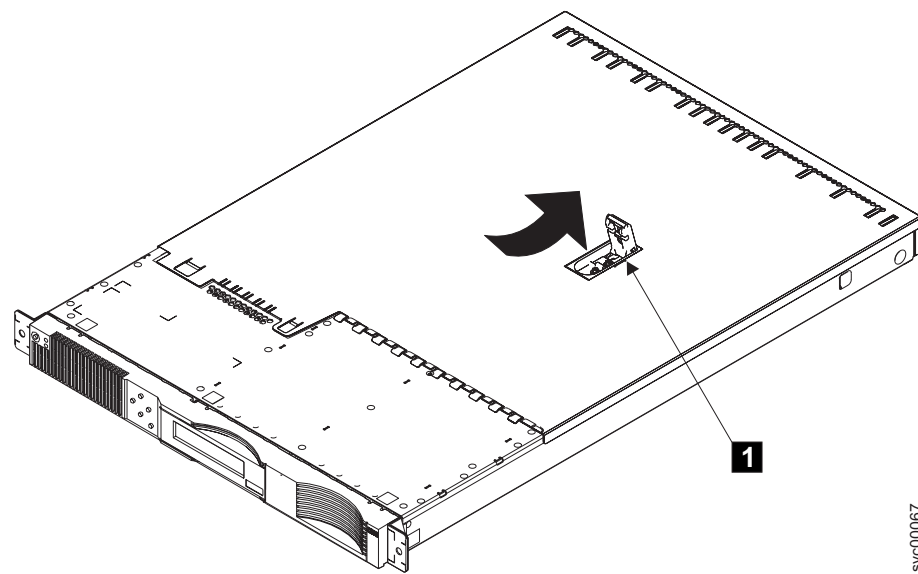

Figure 135. SAN Volume Controller 2145-4F2 with the fan door open
1. Ensure that the lever **1** is fully up, as shown in Figure 135.